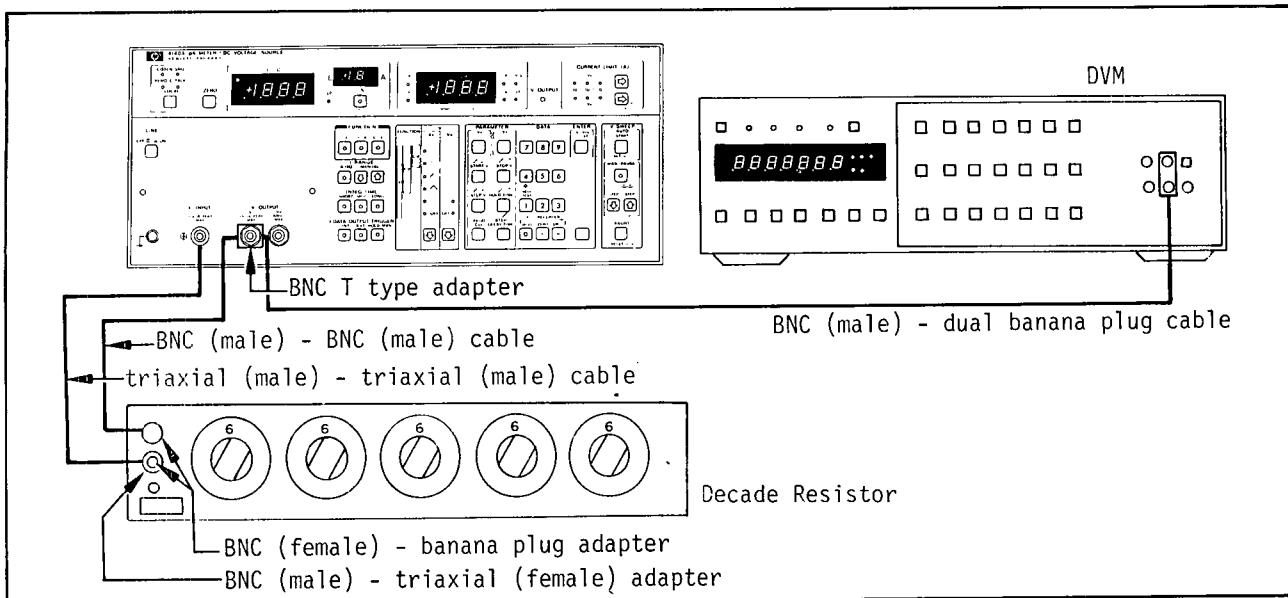

Figure 4-2. Current Measurement Accuracy Test Setup ( $10^{-2} \text{ A} \sim 10^{-7} \text{ A}$  Ranges).
1. Connect 4140A, DVM and Standard Resistor as shown in Figure 4-2 or 4-3